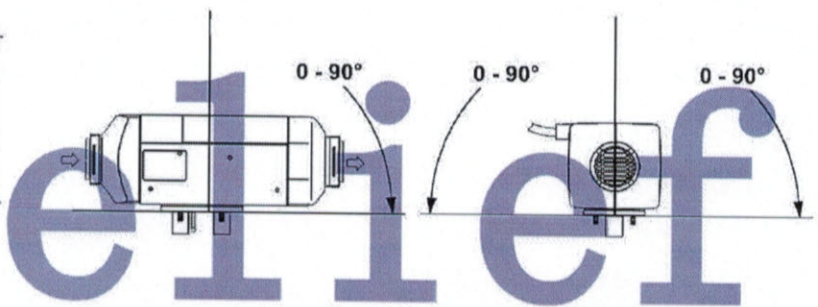

Fig. 10
4.2.4 Direction for installation of the main heater is shown in Fig. 10. Attention must be paid to that the inclination angle shall not exceed the limit, or normal operation will be affected.